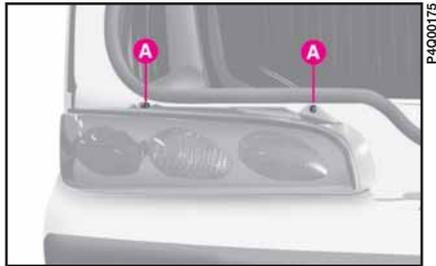

fig. 25
- 1) loosen the two screws **A-fig. 25** from the respective housings and tip the lens;